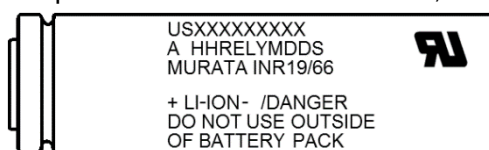
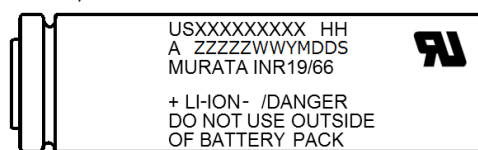

Fig.1
Fig.2
5.2 Model Name(Fig.1, Fig.2 : USXXXXXXXXXX)
5.3 Factory(Fig.1, Fig.2 : A for factory code)
【Fig.1】 K : Tohoku Murata Manufacturing Co., Ltd. Koriyama Plant.
【Fig.2】 SG or G : Murata Electronics Singapore (Pte.) Ltd. Tuas Plant.
5.4 Specification(Fig.1, Fig.2 : HH for Cell Type)
5.5 Lot Number(Fig.1, Fig.2: YMDDS for Manufacturing Date of Cells)